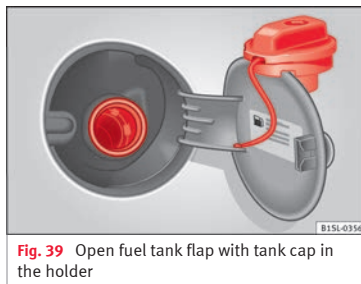

Fig. 39 Open fuel tank flap with tank cap in the holder
- Take out the fuel tank plug by turning it in an anticlockwise direction and rest it on the upper part of the fuel tank flap »» **Fig. 39**.